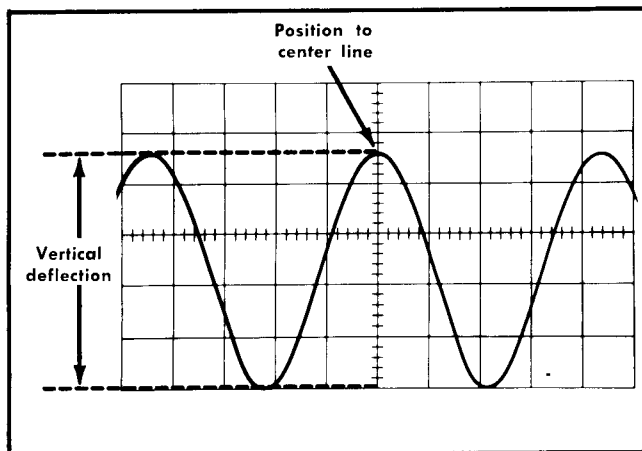

Fig. 2-19. Measuring peak-to-peak voltage of a waveform.
6. Turn the vertical POSITION control so the lower portion of the waveform coincides with one of the graticule lines below the center horizontal line, and the top of the waveform is on the viewing area. Move the display with the horizontal POSITION control, so one of the upper peaks lies near the center vertical line (see Fig. 2-19).
Example. Assume a peak-to-peak vertical deflection of 4.6 divisions (see Fig. 2-19) using a 10× attenuator probe and a VOLTS/DIV switch setting of .5.